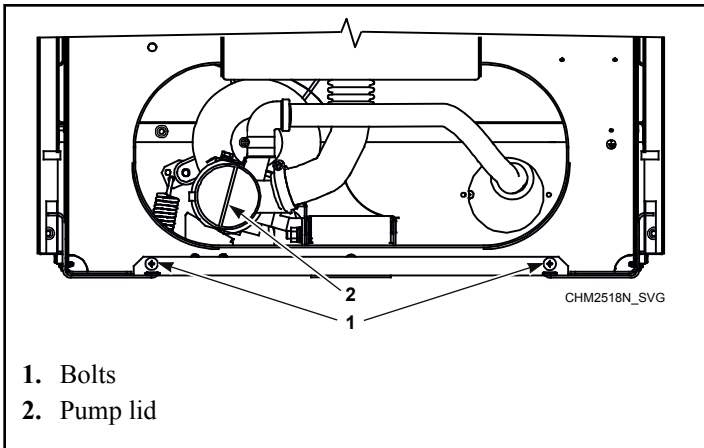

Figure 40
- c. Remove the front panel of cabinet by unlocking bolts. Refer to *Figure 40*.